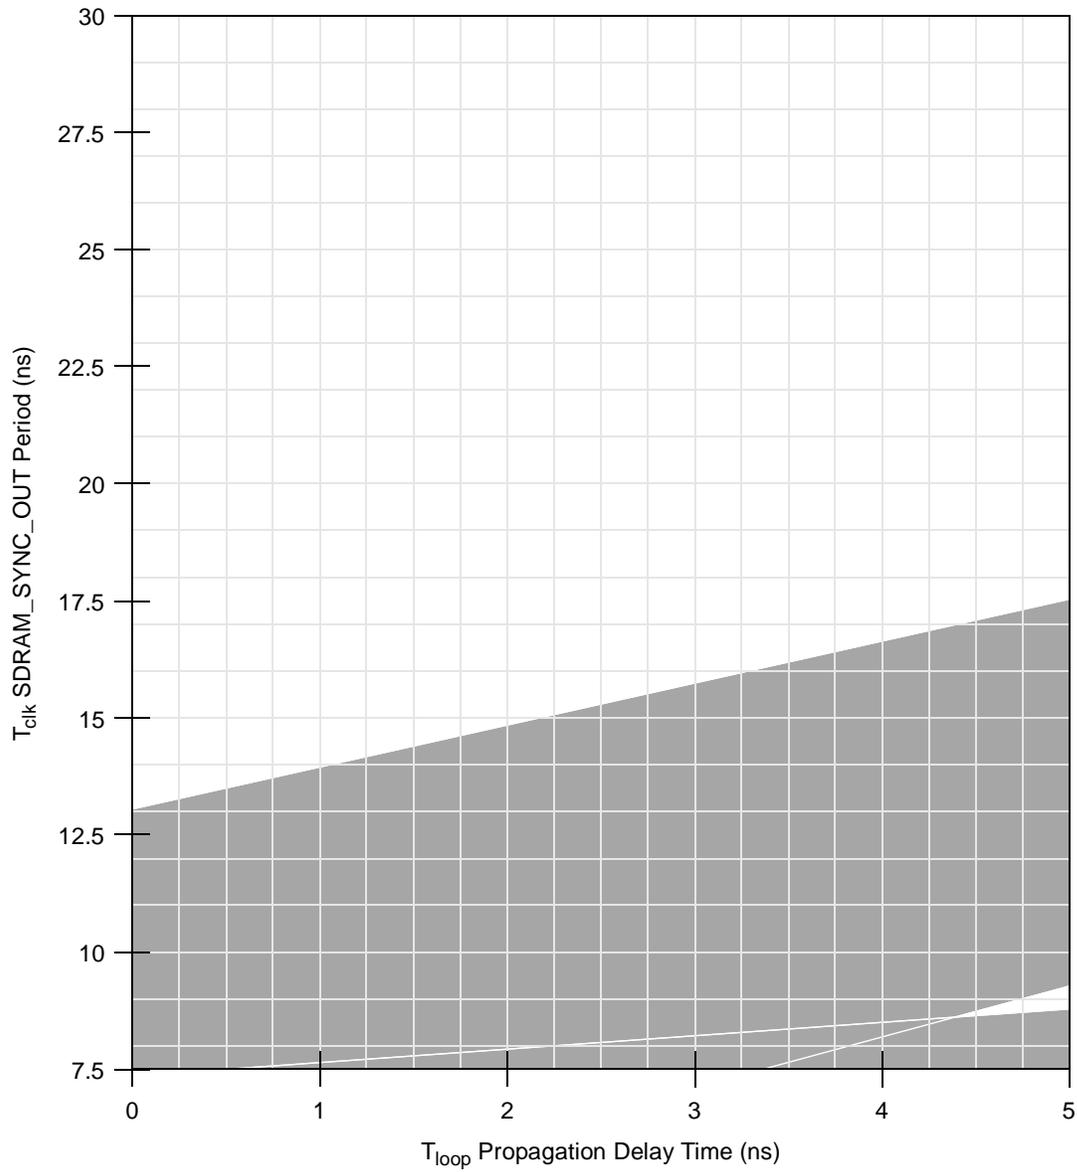

Figure 7. DLL Locking Range Loop Delay Versus Frequency of Operation for DLL_Extend=0 and Normal Tap Delay
- DLL_EXTEND is bit 7 of the PMC2 register <72>. N is a non-zero integer (see Figure 7 through Figure 10). T_{clk} is the period of one SDRAM_SYNC_OUT clock cycle in ns. T_{loop} is the propagation delay of the DLL synchronization feedback loop (PC board runner) from SDRAM_SYNC_OUT to SDRAM_SYNC_IN in ns; 6.25 inches of loop length (unloaded PC board runner) corresponds to approximately 1 ns of delay. For details about how Figure 7 through Figure 10 may be used refer to the Freescale application note AN2164, *MPC8245/MPC8241 Memory Clock Design Guidelines*, for details on MPC8245 memory clock design.
Figure 7 through Figure 10 show the DLL locking range loop delay vs. frequency of operation. These graphs define the areas of DLL locking for various modes. The gray areas show where the DLL locks.